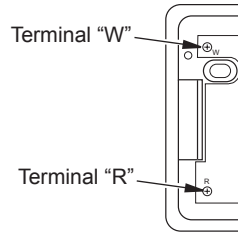

Figure 35 - Thermostat Base Terminals "W" and "R"
- Connect one bare wire end to each terminal ("W" and "R") of the thermostat base (see Figure 35).